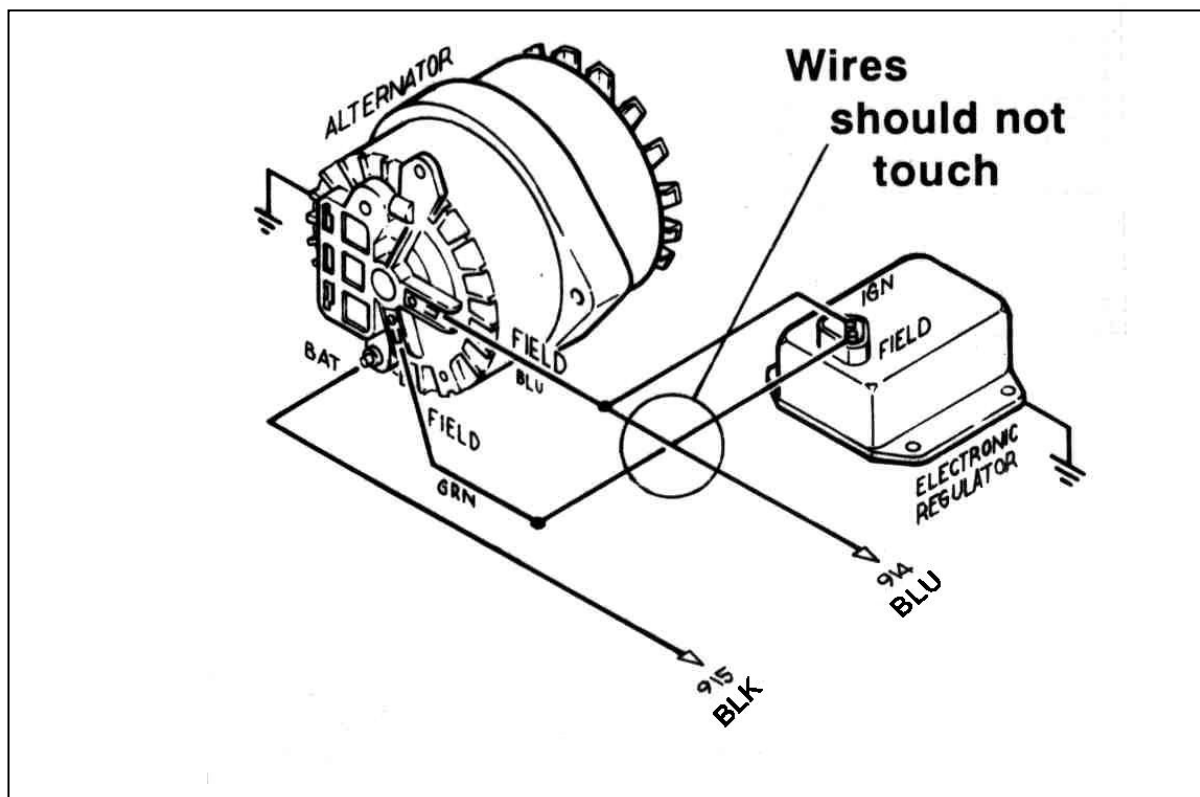

Figure 7-1A Mopar Alternator
7.1.1 Mopar uses one of two kinds of voltage regulators: An electronic regulator and a mechanical one. The electronic voltage regulator is represented in **Figure 7-1A**. It does not matter how the two terminals are connected, so long as they are BOTH connected. The mechanical regulator has terminals marked "F" (Field) and "I" (Ignition). In contrast to the electronic regulator, it DOES make a difference how the mechanical regulator is connected.
7.1.2 Connect ENGINE SECTION wire #914 (BLU) to the Alternator Field (F) terminal as shown in **Figure 7-1A**. Connect ENGINE SECTION wire #915 (BLK) to the Alternator Output lug (Bat).